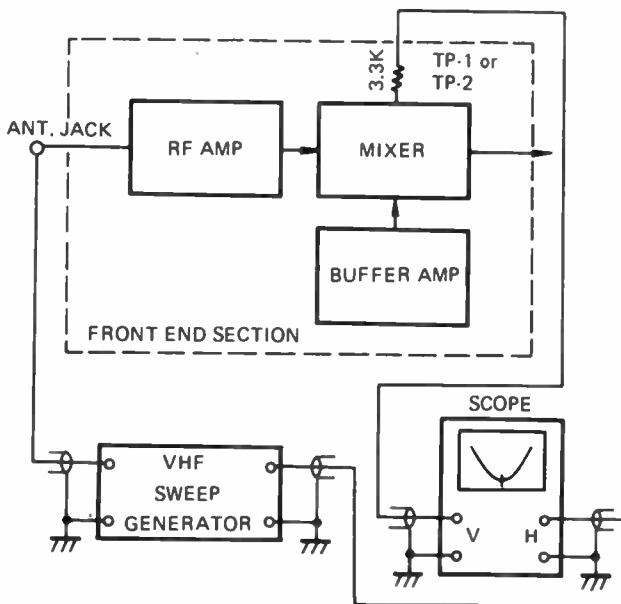

Figure 4. RF SECTION ALIGNMENT BLOCK DIAGRAM
- Step 1: Connect the instruments as shown in Figure 4.